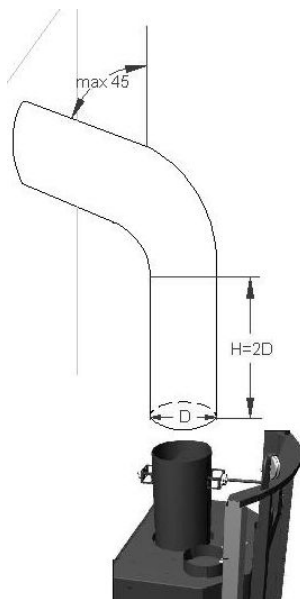

Fig. 15
- For conduit (A): It is necessary to connect the flue pipe with a conduit Ø20cm and after that cover it with rock wool, with thickness of 4cm and with external aluminum foil, for insulation. Do not use fiberglass wool or paper based insulation. Also, do not use flexible metallic conduits with a thin wall or fiber cement. This conduit must be perfectly sealed. The flue pipe must be adequately insulated along its entire length. The main dimensions are on Fig. 15.